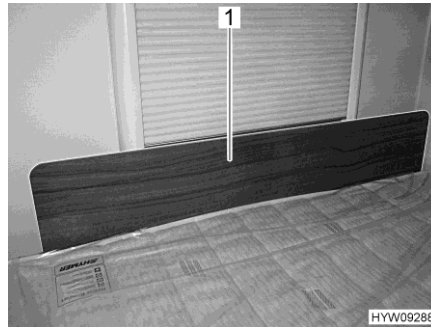

Fig. 84 Protective panel / fall out protection
- Plug in the protective panel (Fig. 84,1) in front of the window, between mattress and window frame. The clamping effect of the mattress holds the protective panel in its position in front of the window frame.